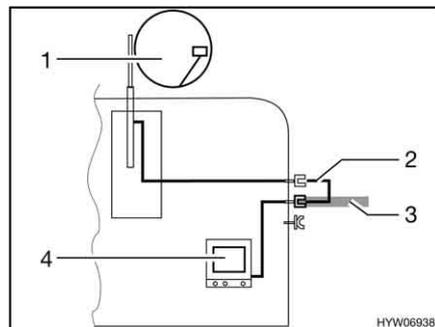

Fig. 169 TV inside the vehicle
- TV inside the vehicle (Fig. 169,4): Connection to roof antenna (Fig. 169,1) with connection cable (Fig. 169,2)
- TV inside the vehicle (Fig. 169,4): Connection to external antenna (Fig. 169,3)